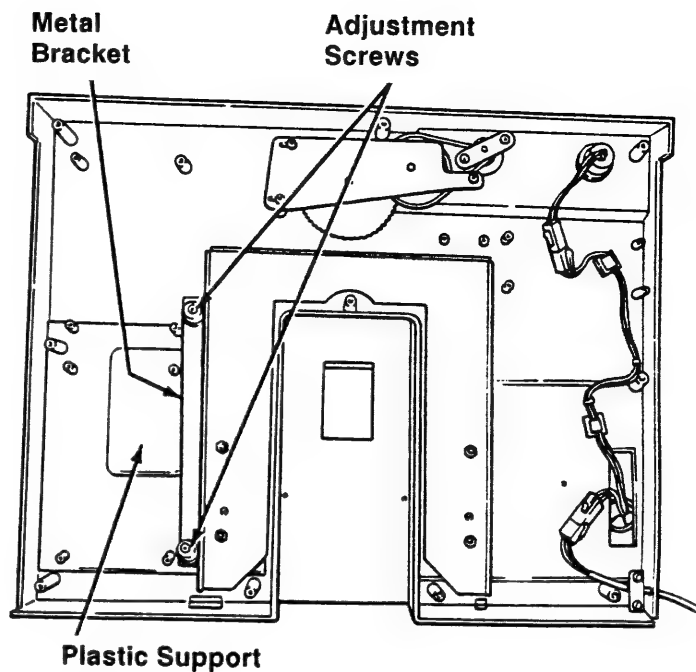

Figure 3-7A
5. Loosen both Adjustment Screws (Figure 3-7A).
6. Press the Metal Bracket against the plastic support (Figure 3-7A) and tighten the Adjustment Screws. Add Lockwashers if the bracket loosens frequently.